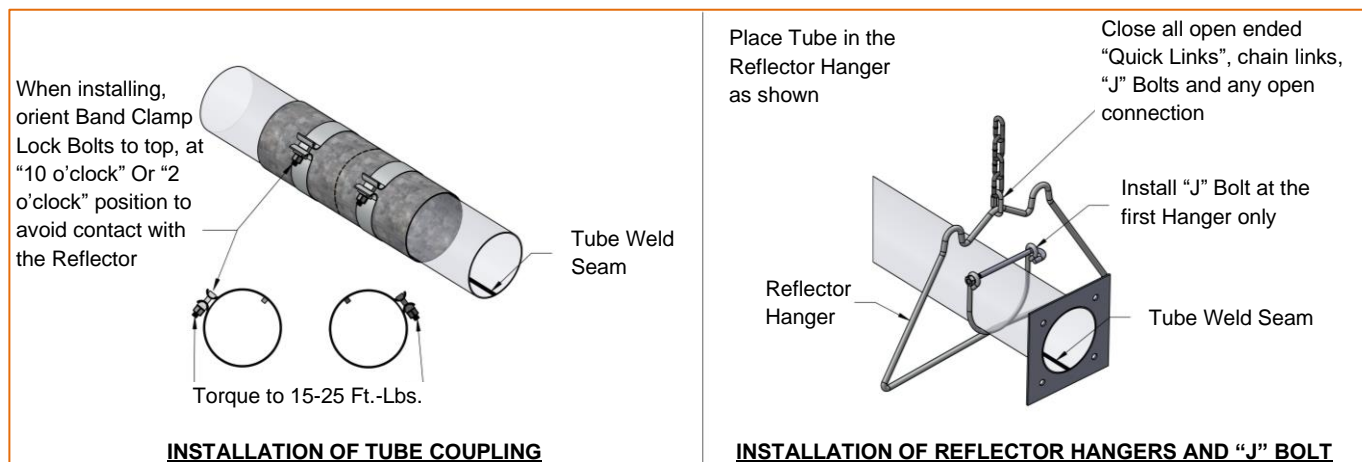

Figure 9: “J” Bolt and Coupling Installations
- Tighten the cradle loops of the first hanger with the “J” Bolt found in the burner box, to snugly hold the combustion tube from rotating see Figure 9
**Note:** In order to obtain smoothly sealed coupling liners, tighten each of the coupling bands progressively and alternately. Tightening one band completely before the other may result in an undesirable wrinkle in the liner (refer to Figure 9). **Be sure not to over torque the coupling. (Torque coupling to 15-25 lbf-ft).**